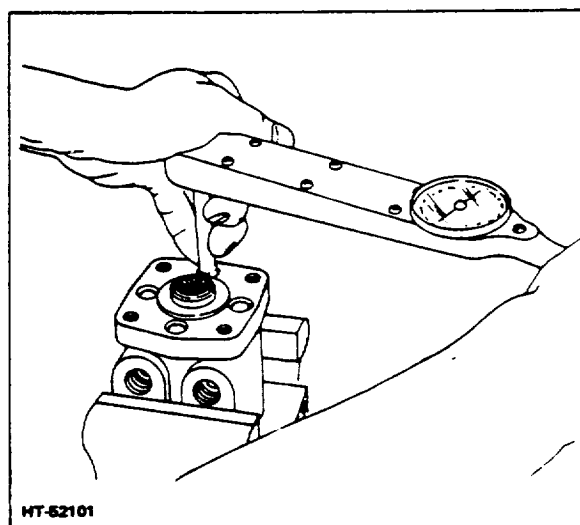

Figure 3-21. Tightening Mounting Plate Capscrews
15. Align the bolt holes in the cover with the tapped holes in the housing. Be sure the mounting plate rests fairly flush against end of housing assembly so that the cap locator bushing is not cocked. Install the 4 mounting plate capscrews and torque gradually and evenly to a setting of 250 lb-in (Fig 3-21).